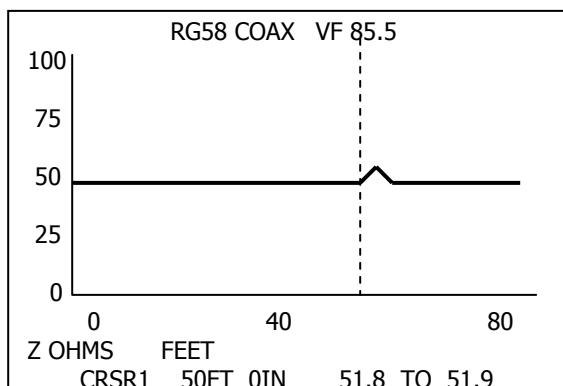

Figure 1
2. A barrel connector with greater or lesser impedance than that of the two cable's being connected will display either a small upward deviation for greater impedance or a small downward deviation for lesser impedance. See Figure 1 depiction of a  $75\Omega$  barrel connector connecting two  $50\Omega$  sections of coax cable.